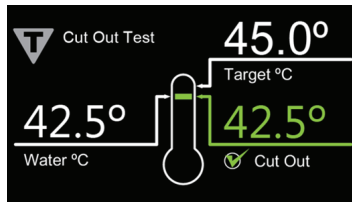
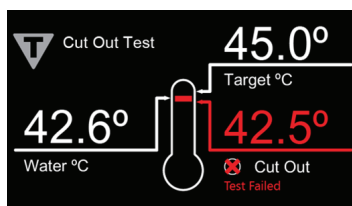

Figure 64: Cut out test pass
Figure 65: Cut out test fail
3. The controller will cutout between 42.5° C and 45° C. (See Figure 64 on page 80 and Figure 65 on page 80).